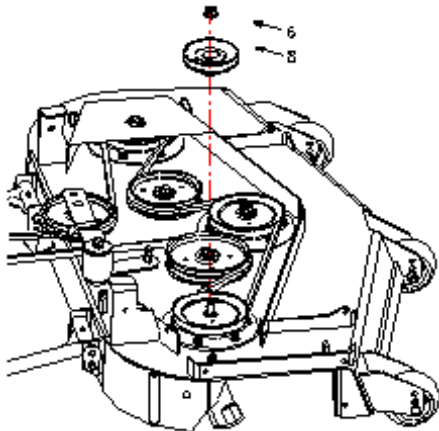

FIG 2
- b) Install Drive Pulley (FIG 2) using existing hardware